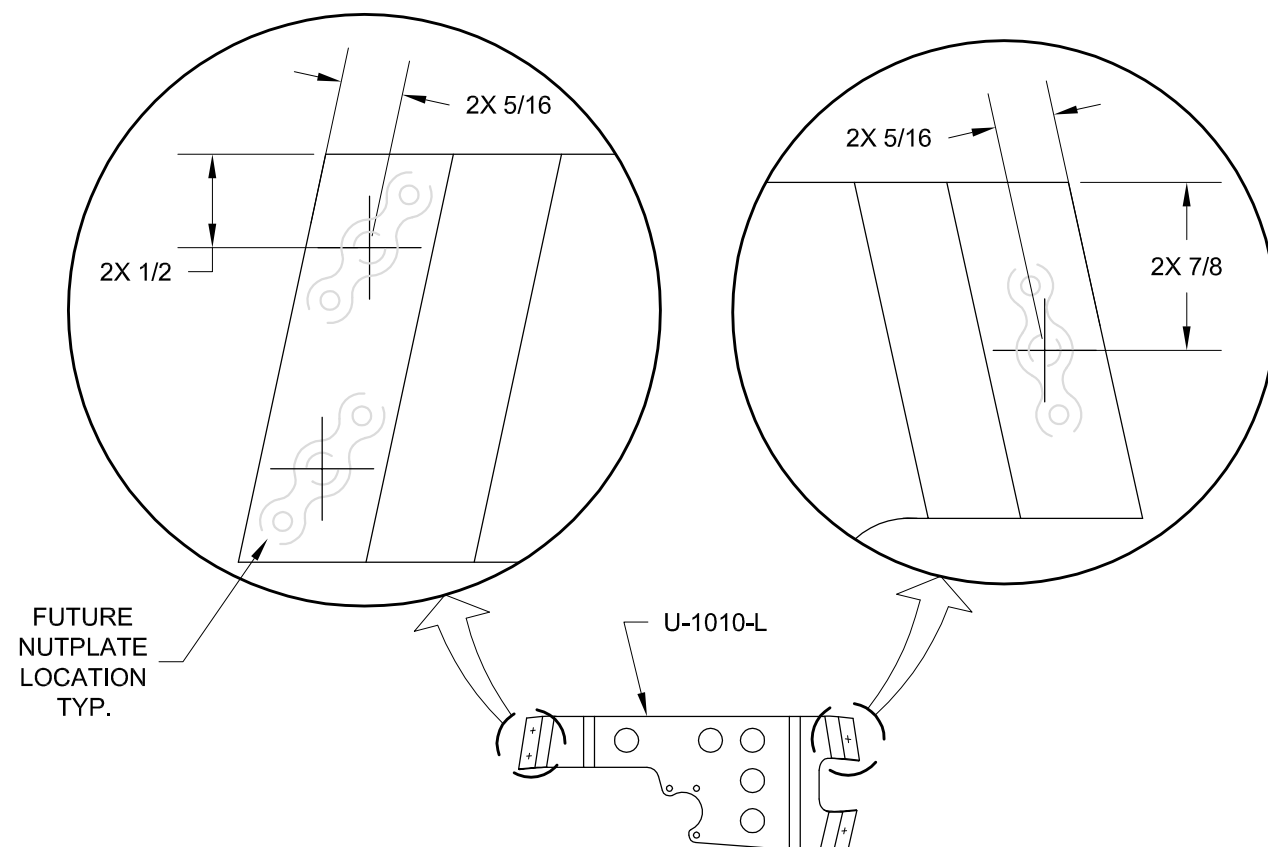

FIGURE 2: MARK SCREW LOCATIONS
Step 2: Mark nutplate locations on the U-1010-L Main Wheel Fairing Bracket using a "sharpie" pen as per the dimensions shown in Figure 2. Place the marks on the side facing the fairing.